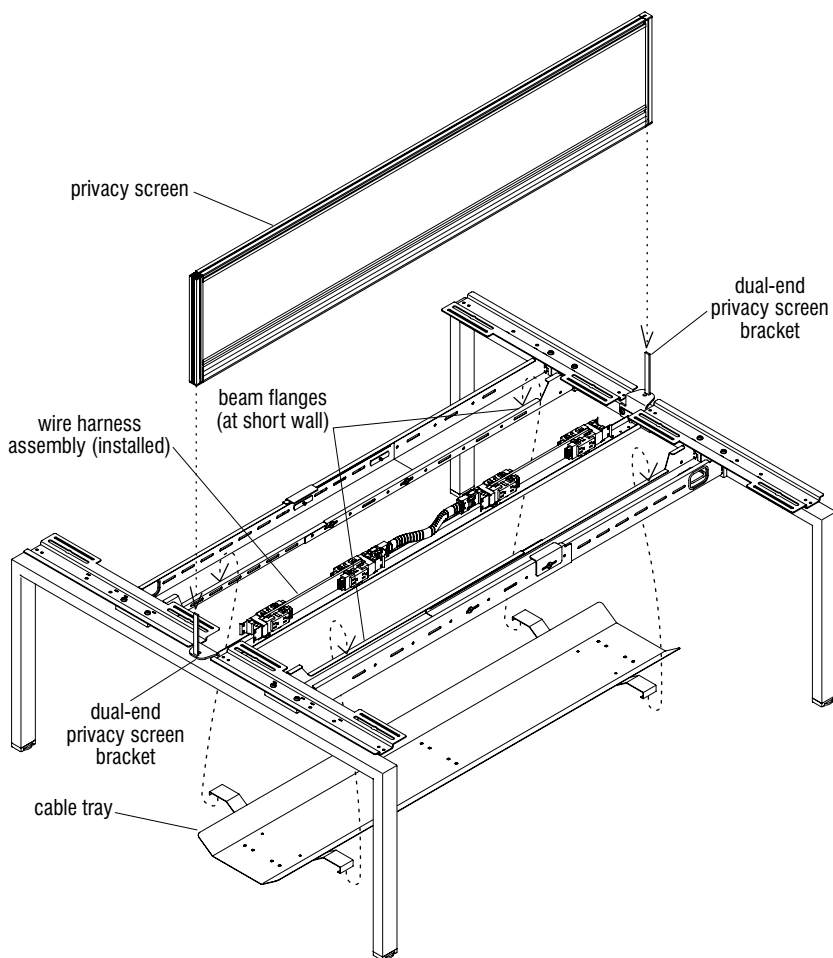

Figure 10 - Dual-Sided Stand-Alone Benching with Wire Harness/Cable Tray & Privacy Screen
5. Position the "cable tray" under the installed wire harness assembly as illustrated. Lift the tray up evenly and rotate the "support arm with hooks" side up first so the arms and hooks position over the short-wall side of one beam. Then rotate the other side up and slide the unit back so the flat support arms can then also rest on the other beam's short-wall beam flanges also (Figure 10).
6. To gain access under the wire harness, the cable tray can be slid back in reverse order of the instructions above, then swung down to hang by the support arms with hooks (Figure 10).
1. If dual-end privacy screen brackets were installed to the inside of each end leg, a privacy screen is installed to the unit by positioning the privacy screen over the bayonets of the brackets, and evenly pressing the privacy screen down. Take care to keep the privacy screen level when sliding the unit down to avoid binding the screen as it moves down (Figure 10).